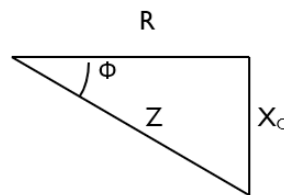

Figure 5.40
The resultant opposition to the flow of current in the circuit is the impedance (Z) **figure 5.40**.